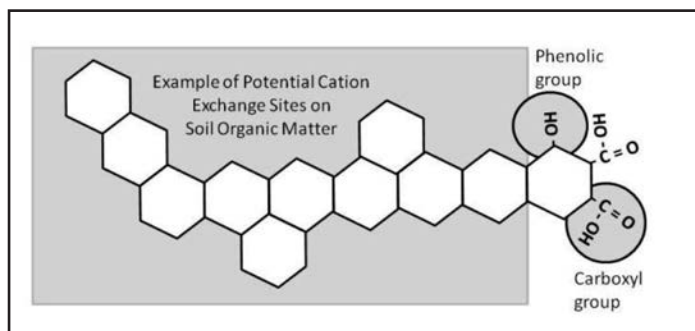

Figure 1. Up to 90% of the negative charge of humus is due to organic carboxylic and phenolic functional groups.
- **Soil organic matter.** There is no permanent charge locked in organic matter, but its CEC depends on the surrounding chemical conditions. As the soil pH increases, the hydrogen cations are stripped from the organic matter (OM) and leave a negative charge that will retain a soil cation. As the pH increases, the CEC of organic matter increases; called pH-dependent charge. (Figure 1).